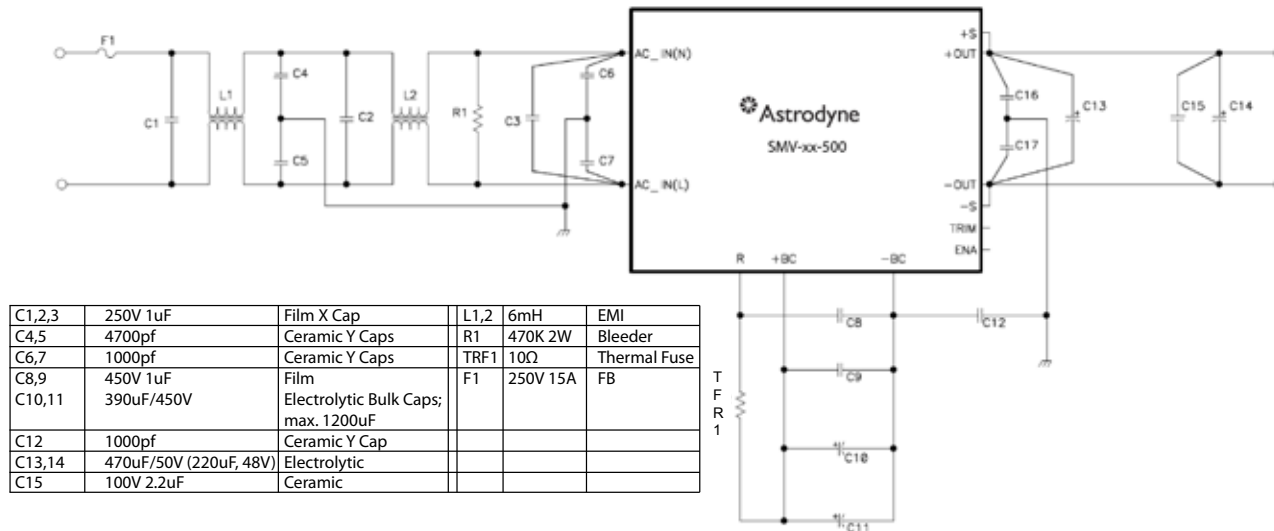

Fig. 3 Application Circuit.
3. Turn on @ 265Vin, External Components are needed for operation Refer to Fig. 3 for application circuit.
TFR1: 10 to 100Ω: By connecting a thermal fuse resistor across R and +BC terminals as shown in fig. 3, in-rush current during line throw-in can be suppressed. Failures due to in-rush current such as melting of external fuse, welding of relay or switch connecting joints or shutdown of No0Fuse Breakers (NFB) can occur. Therefore, be sure to connect this external thermal fuse resistor. Note: This module will not operate without this external resistor.